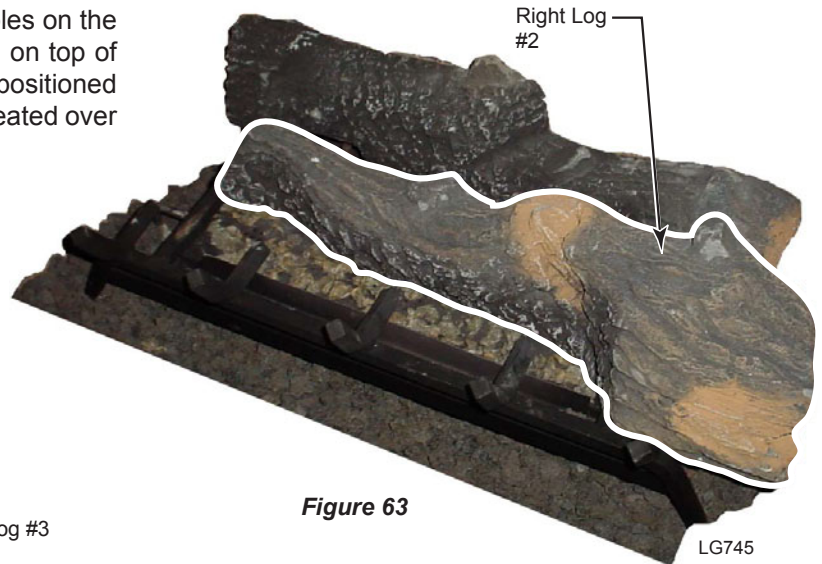

Figure 63
6. Place Right Log #2 by matching the two holes on the bottom of the log with the two pins located on top of the burner. When this log is in place it is positioned at an angle and the right side of the log is seated over the right tong of the grate. *Figure 63*